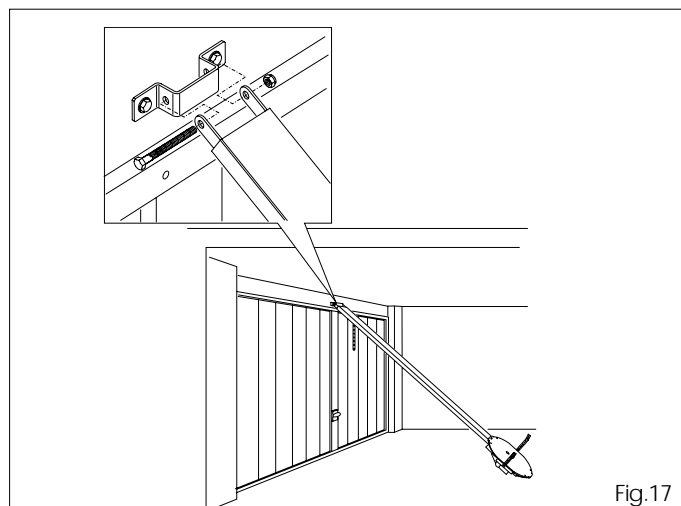

Fig.17
- 6.6 Place the operator on the ground, lift up the sliding longitudinal member and step toward the bracket – fit the screw and tighten the nut (fig. 17).